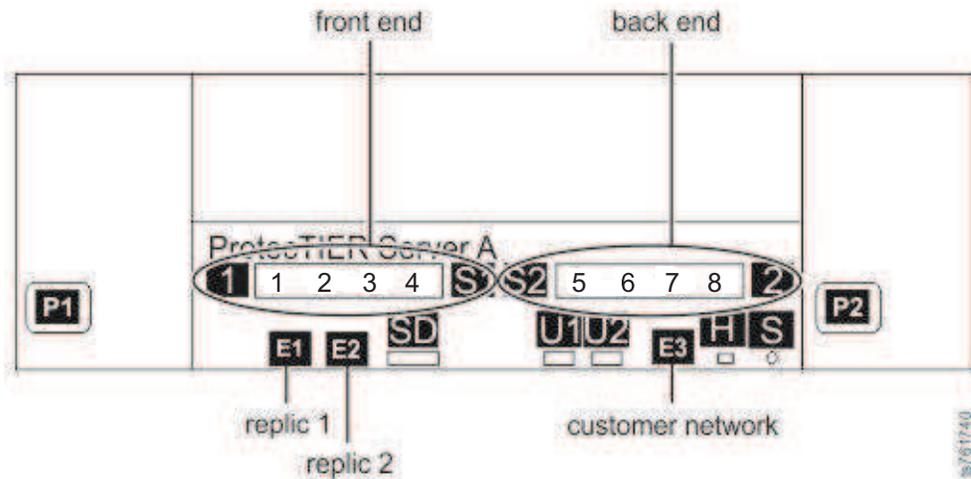

Figure 14. Front-end Fibre Channel connections for single node configuration on a DD6
1. Connect Fibre Channel cables between the ProtecTIER server and the customer host Fibre Channel network according to Figure 14. To help track your progress during this task, consider making the connections from top to bottom. Follow the order in which the tasks are listed in the table and mark the "✓ when complete" column after you make the connection and label the cable..